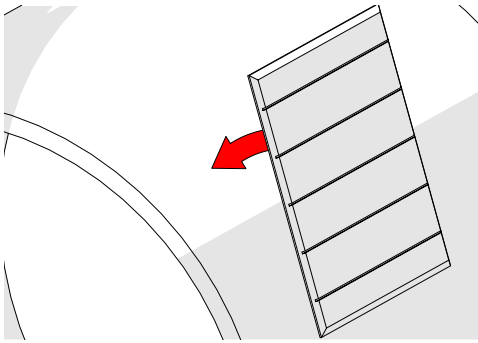

Fig. 221 - Place installation/removal mat
5. Place the installation/removal mat on the inspection surface (Fig. 221).